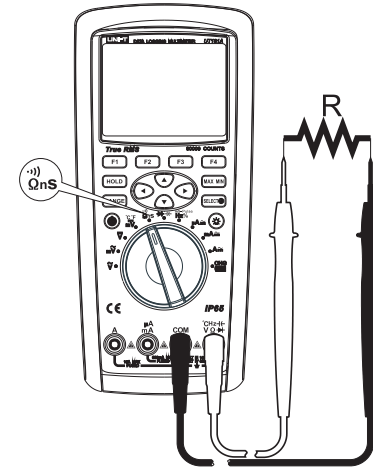

Figure 8
- 2) Set the rotary switch to the measurement  $\Omega$  nS  $\rightarrow$  and current  $\Omega$  is the default resistance measurement as shown in Figure 8. Connect the test leads to both ends of the measured resistance.
- 2) Set the rotary switch to the measurement  $\Omega_{ns}$  . press the key SELECT to select conductance measurement 60nS. Connect the test leads to both ends of the measured resistance as shown in Figure 8.
- 2) Set the rotary switch to the measurement  $\Omega$  (S), press the key SELECT to select the continuity test (S). Connect the test leads to both ends of the measured resistance as shown in Figure 8. Press the function key MENU (Menu) to enter the menu items. If pressing the key SHORT (Menu), then the buzzer selects